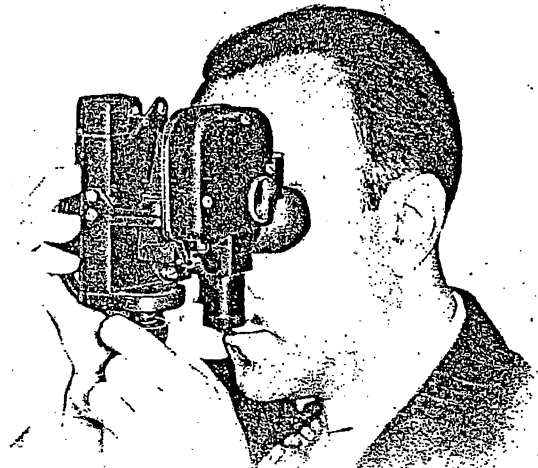

Figure 10—Operating Position
a. DAY OBSERVATIONS. (See figure 10.)
(1) The instrument is held by the frame in the palm and fingers of the right hand with the control knob down.
(2) Insert battery case into a convenient pocket and attach the battery cable to the instrument.
(3) Check that bubble chamber light and marker light are off, to preserve batteries.